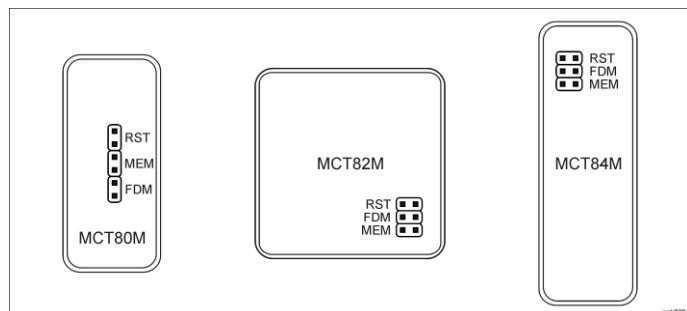

Fig. 4 Service contacts
2. Place jumper on MEM contacts (fig. 4).
2. Place jumper on FDM contacts (fig. 4).